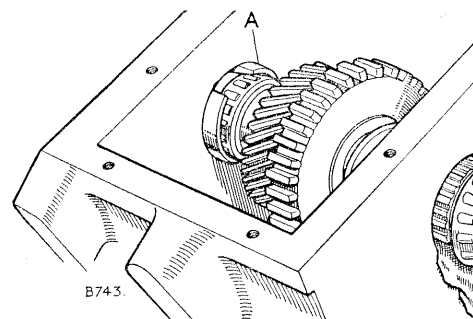

Fig. C-18—Removing transfer box output shaft front bearing outer race
9. Fit the protection cap (Part No. 243241) over the threaded portion of the transfer box output shaft and tap the shaft forward as far as possible to drive the front bearing outer race from the casing. Slide the shaft to the rear and insert an appropriate packing piece (Fig. C-18), between the front bearing rollers and the outer race; this packing piece may be fashioned from a scrap bearing outer race, the outer diameter of which should be ground to give free movement in the transfer box, and a portion cut away so that it may be fitted over the shaft. Tap the shaft forward again, when the bearing outer race should be driven clear of the casing.